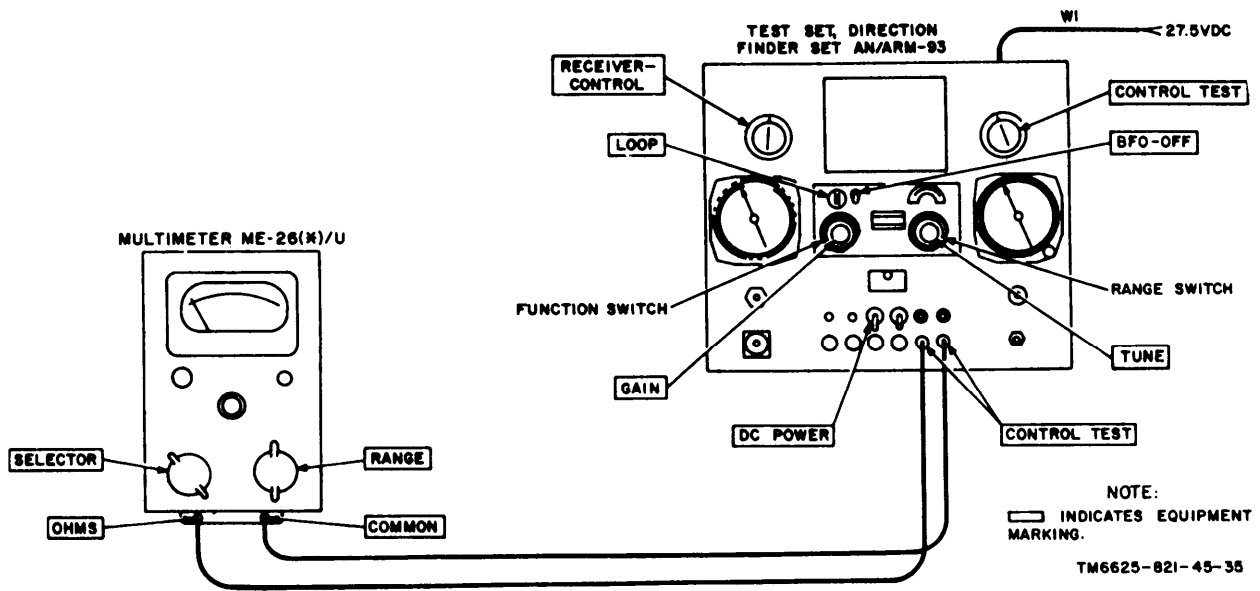

Figure 4-5. Control unit test setup.
b. *Test Connections and Conditions.* Set test set DC POWER switch to OFF position. Set RECEIVER-CONTROL to CONTROL position. Replace case of control unit and mount control unit in panel of test set. Connect ME-26(*)/U as shown in figure 4-5.